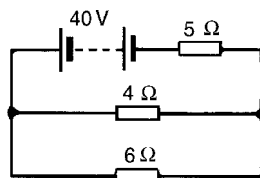

Figure 13.13
- 3 Use Kirchhoff's laws to find the current flowing in the $6\ \Omega$ resistor of Fig. 13.13 and the power dissipated in the $4\ \Omega$ resistor.